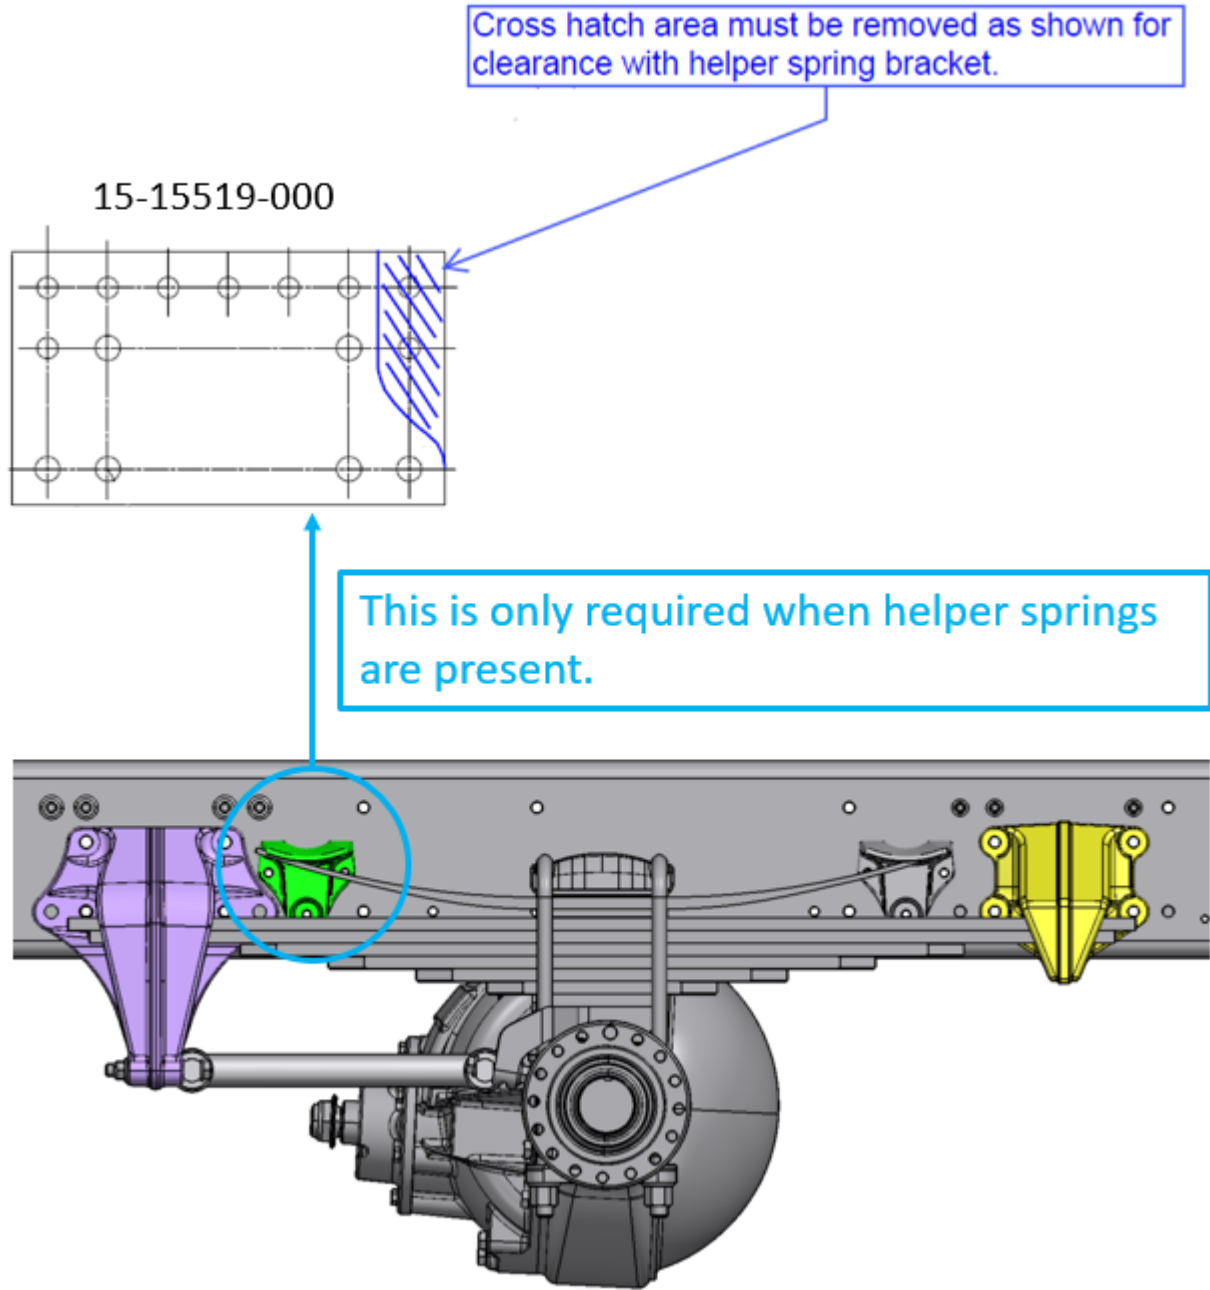

Fig. 2
5. If the suspension includes a helper spring bracket, the 15-15519-000 spacer plate will need to be modified to provide clearance (see Fig 2)